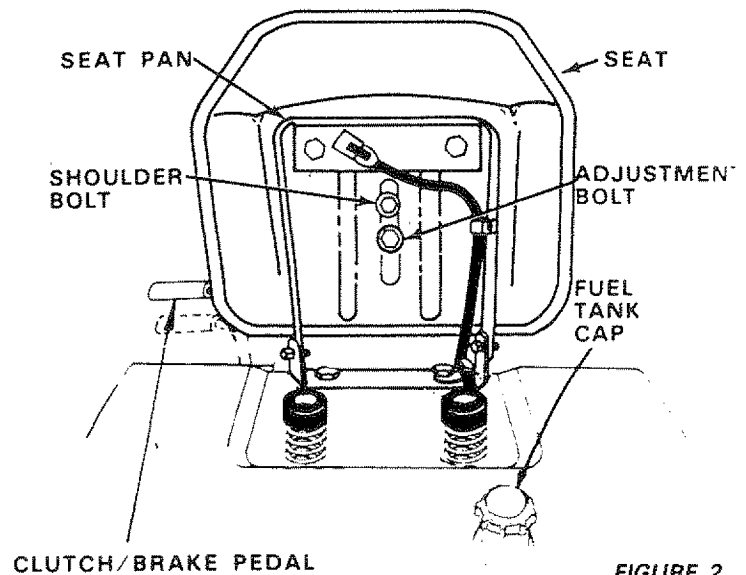

FIGURE 2
- a. Place seat on seat pan. Screw adjustment bolt, lockwasher and flat washer into seat (Fig. 2). Screw shoulder bolt into seat. Bolts, lockwasher, and flat washer found in bag of parts. Tighten shoulder bolt securely using a 1/2" wrench. Tighten adjustment bolt.
- c. To adjust, raise seat. Loosen adjustment bolt (Fig. 2) and slide seat to a comfortable operating position. Tighten adjustment bolt securely using a 3/4" wrench.